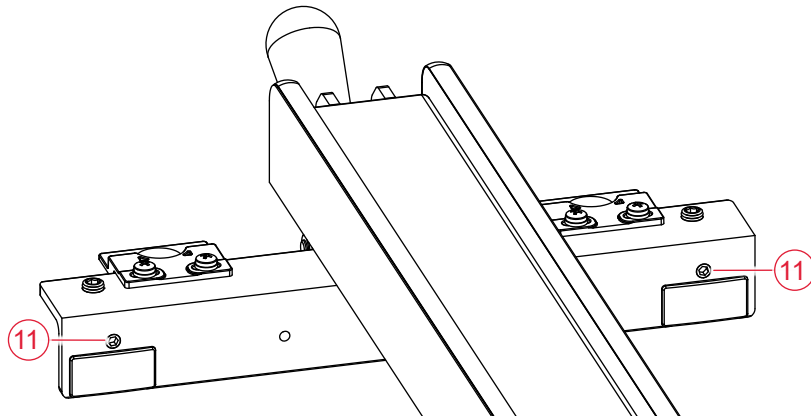

Fig. 27
**Locking Force:** If the fence is clamped but does not hold its position on the main tube, use a 5 mm hex key to turn both parallelism adjustment screws (11) clockwise an equal amount to increase the pressure. The screws are located on the back of the glide bracket (Fig. 27). If the handle requires too much force to clamp the fence to the main tube, turn the adjustment screws counter-clockwise to reduce the clamping force.
If adjustment is required, use a 5 mm hex key to turn one of the two parallelism adjustment screws (11) (Fig. 27) until the faceplate is flush with the miter slot.